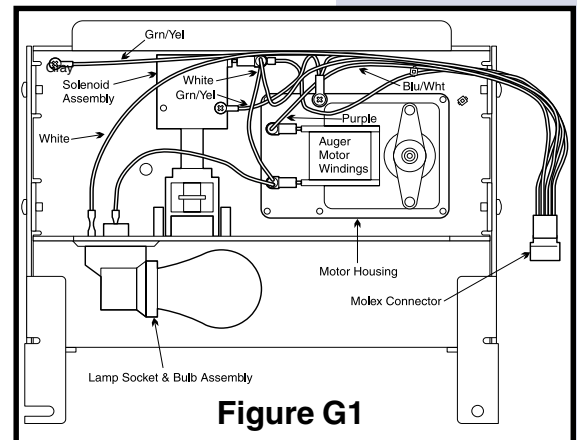

Figure G1
5. Remove screw securing green ground wire to motor housing on back of Motor Cover. (See Figure G1.)
6. Disconnect two (2) leads hooked to Auger Motor windings (Leads are purple and white - See Figure G1).
6. Remove screw securing green ground wire to Solenoid Assembly on the back of Motor Cover. (See Figure G1.)
7. Disconnect two (2) leads hooked to solenoid coil (Leads are blue with a white stripe and white - See Figure G1).